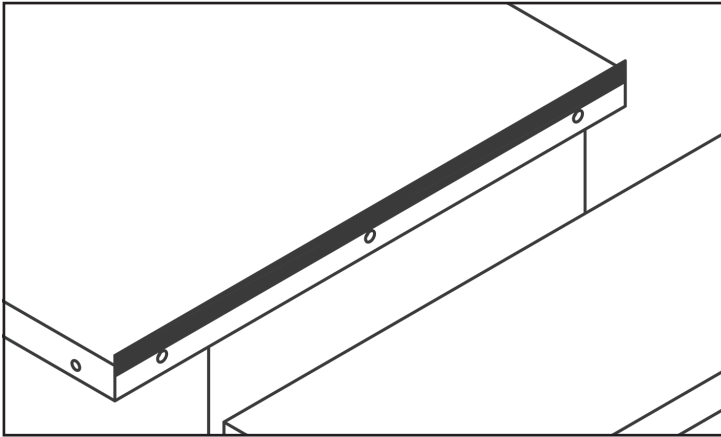
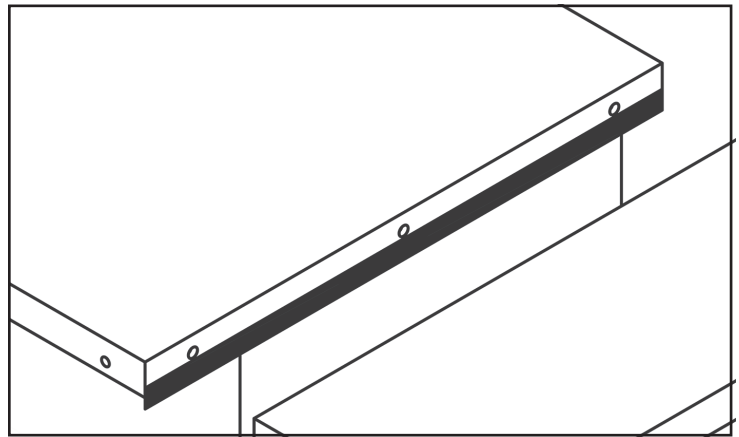

Fig. 12 Masking tape location for lowering wing.
Fig. 13 Masking tape location for raising wing.
9. If the wing is slightly tilted up or down, place some masking tape along the whole length, between the table and the wing. Place the tape above the bolts to lower the wing (Figure 12) or below the bolts (Figure 13) to raise it.